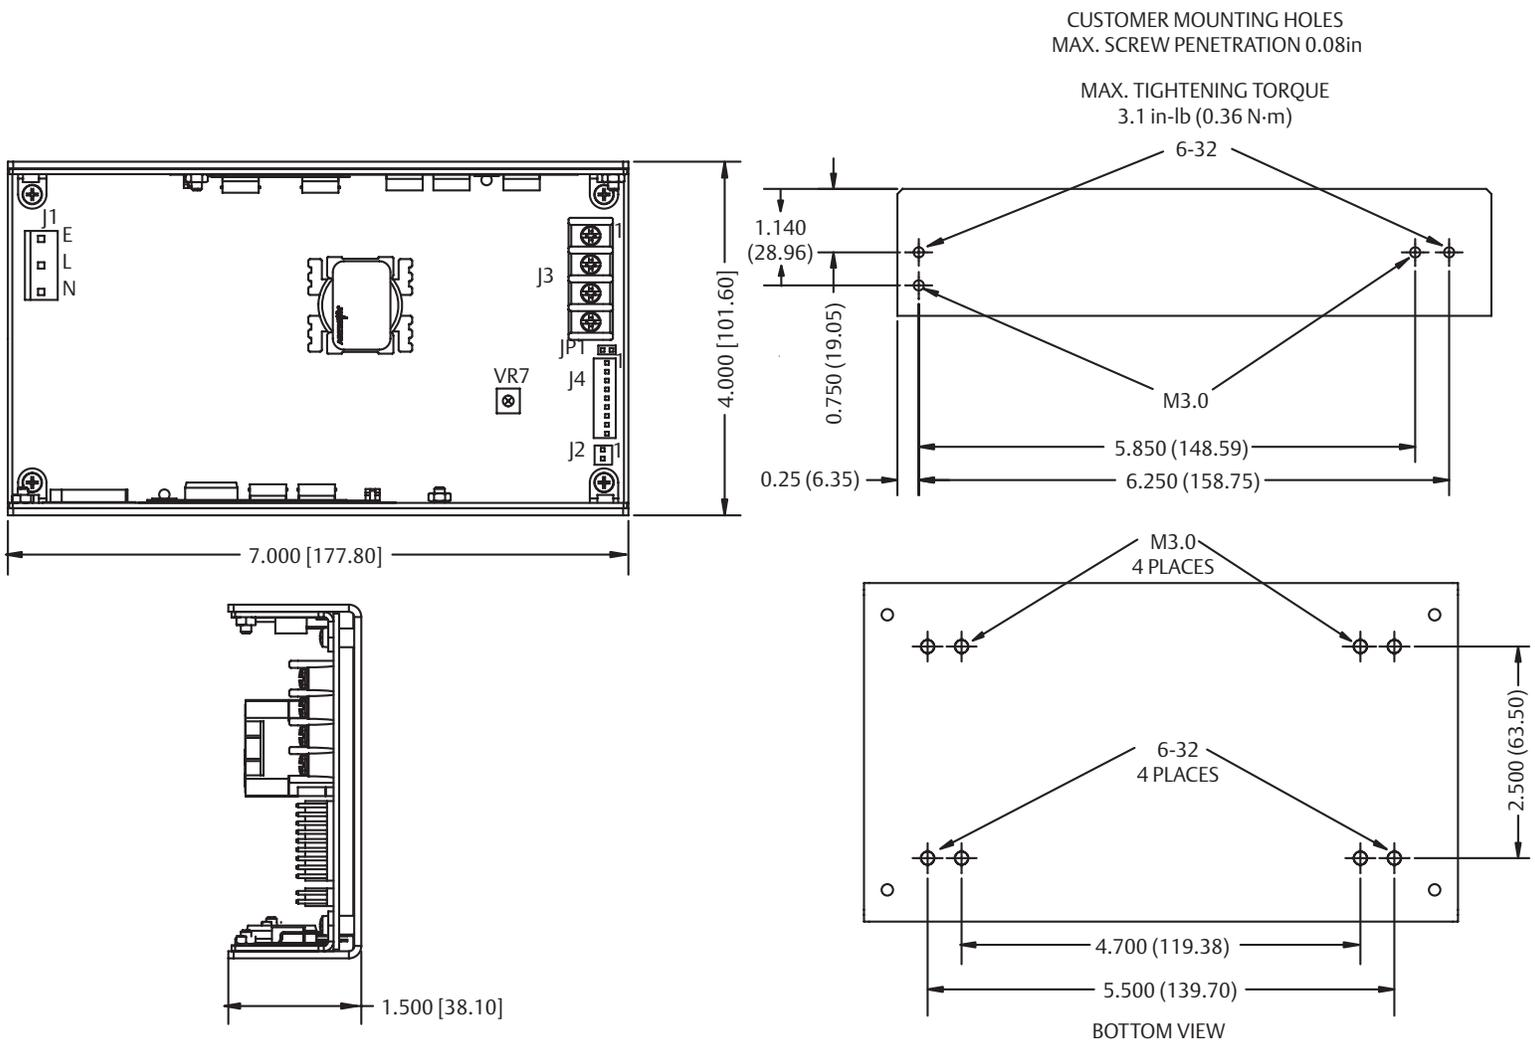

Figure 1: Derating Curve
- Free air convection. Maximum continuous output power not to exceed 175 W. Refer to Figure 1 for the derating curve.